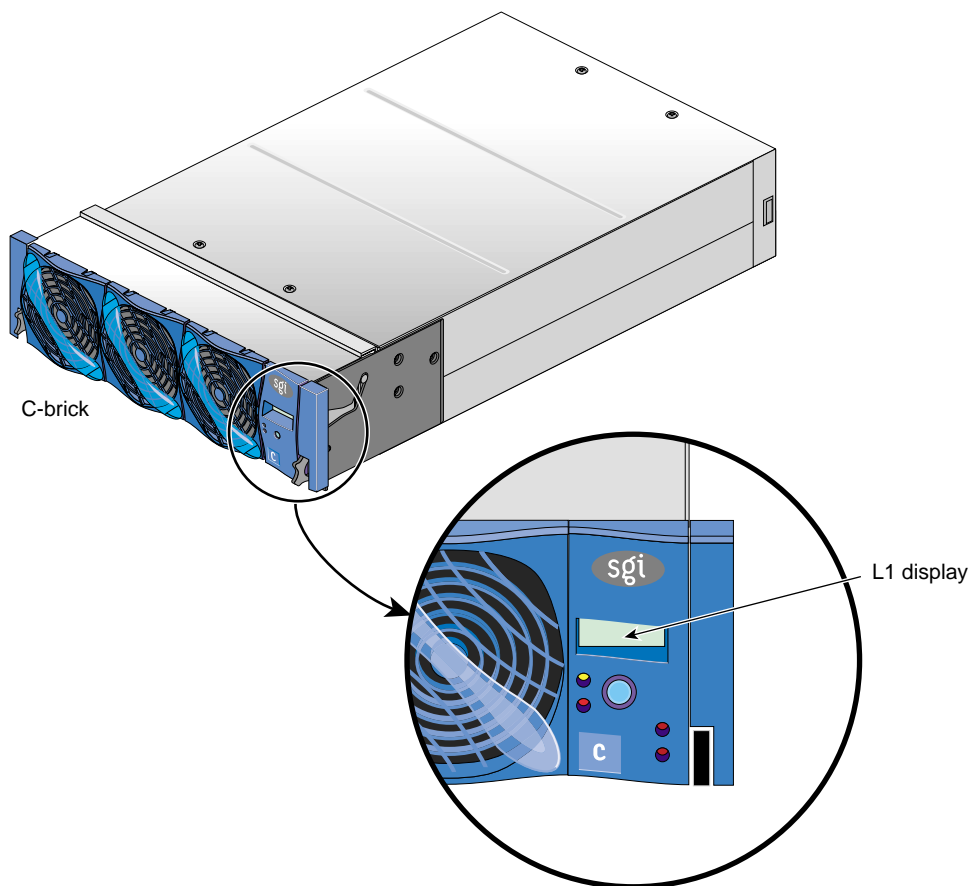

Figure 1-12 L1 Controller Display
- On the L1 controller's display at the right-hand corner of the front of each brick (except the TP900 and D-brick2), as shown in Figure 1-12, you can monitor brick items. For example, you can see if the fans on a particular brick are operating properly.